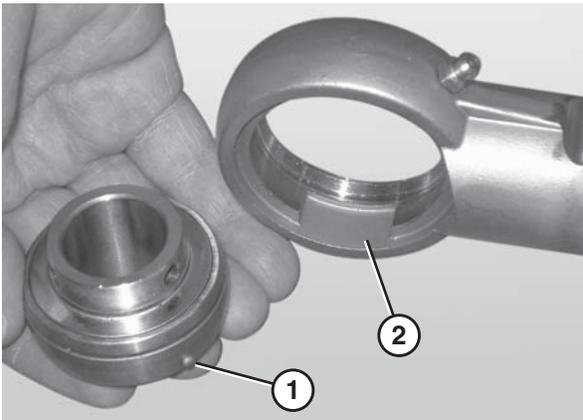

Figure 95
5. Remove the worn or damaged bearing (**Figure 95**).
When inserting the new bearing, make sure the anti-rotation notch (**Figure 95, item 1**) on the bearing lines up with the groove inside the housing (**Figure 95, item 2**).